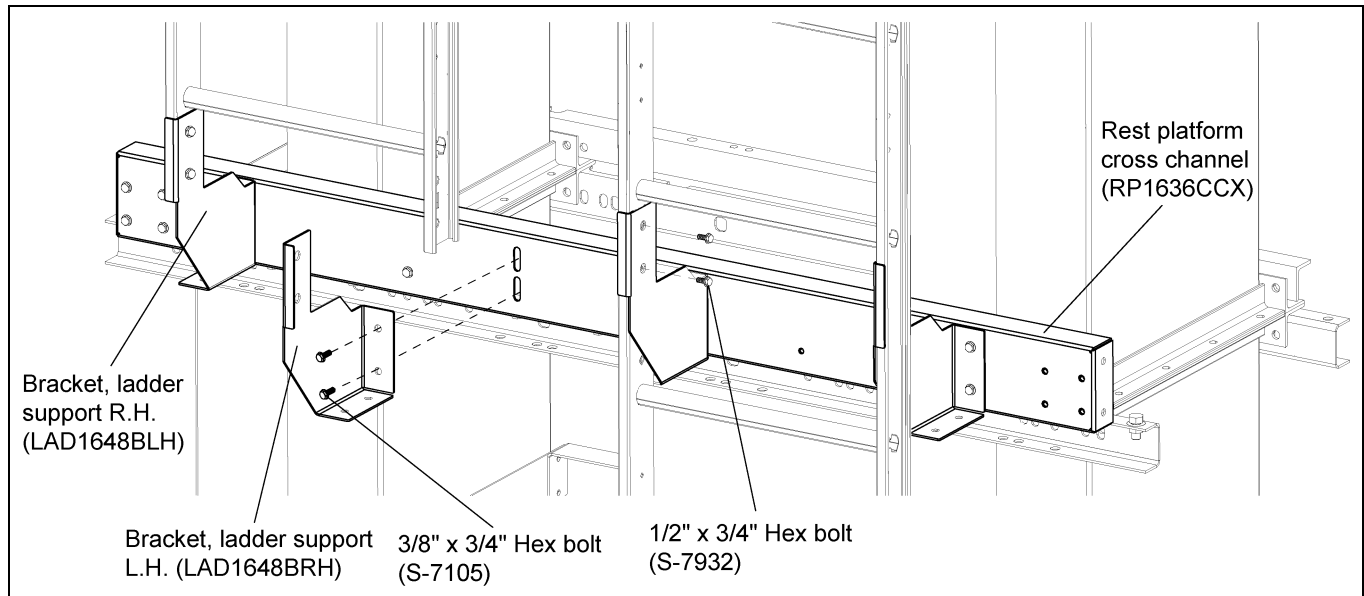

Figure 7M
10. Attach ladders to ladder support brackets using 1/2" x 3/4" hex bolts. (See Figure 7M.)